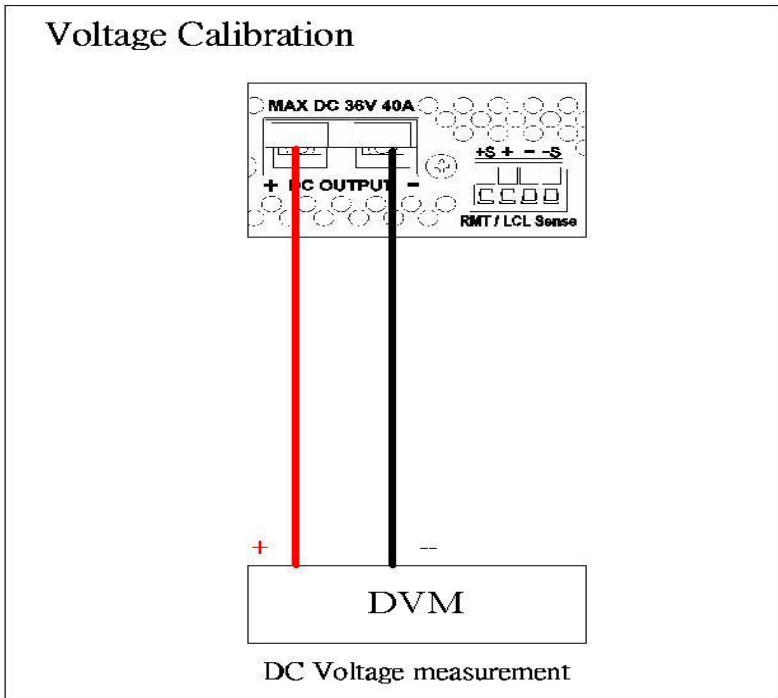

Figure 1
- A. Connect power supply output terminal to DVM (as shown in Figure 1 below). Turn on the supply. Once the unit enters the main page, press **MENU** and select “8. Calibration” and key in password “13579” to enter the following calibration menu screen: